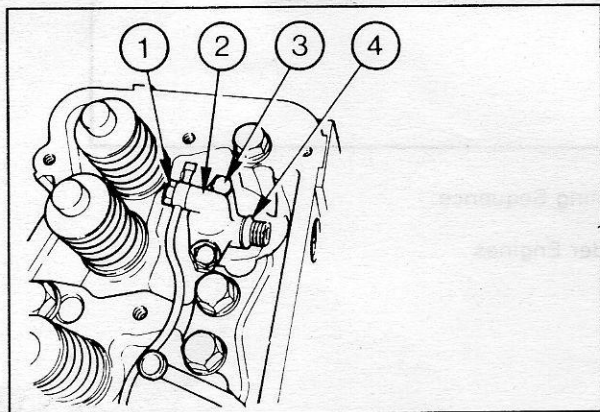

Fig. 51 - Replacing Injectors
75. Insert the injectors into the cylinder head and fit but do not tighten the retaining bolts (Fig. 51).